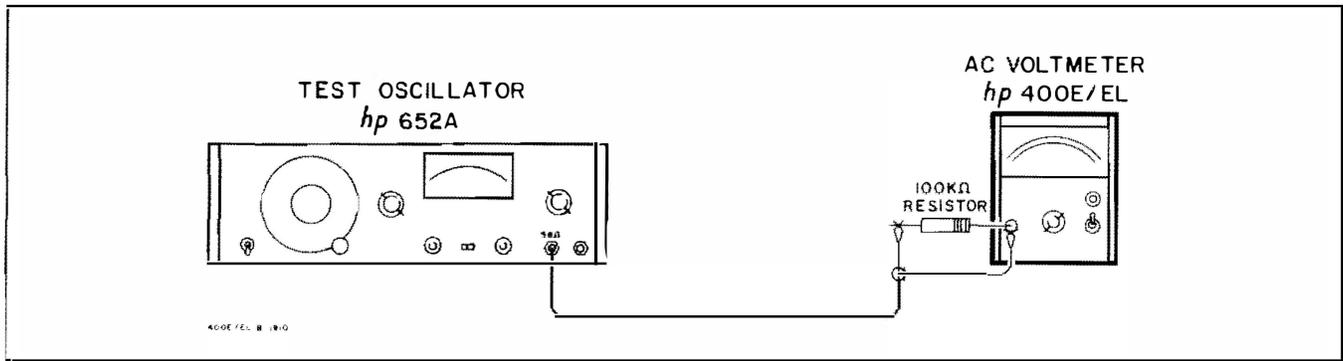

Figure 5-3. Input Impedance Check
- c. Connect a 100 kilohm resistor between the test oscillator output and the 400E/EL input as shown in Figure 5-3.
- a. Connect a test oscillator, a 100 kilohm resistor, and the 400E/EL as shown in Figure 5-3. Insert the resistor lead directly into the BNC connector on the 400E/EL, and connect the ground lead to the outer shield of the 400E/EL input connector. Do not use an adapter, as any adapter will add input capacity.